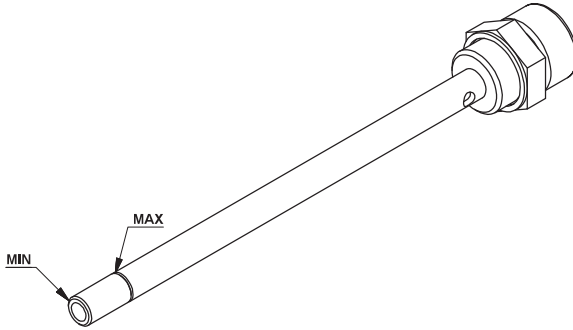

FIG. 33
- Check that the level is between the minimum and maximum indicated on the dipstick (Fig. 33)